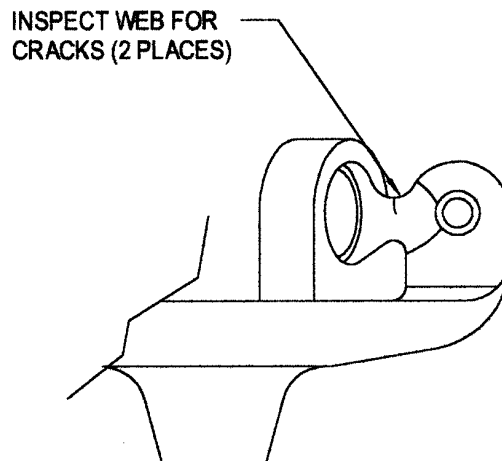

FIGURE 2
b. Using a suitable light source and a 10X magnifying glass, visually inspect the web area between the universal shaft and rod end bearing mounting lugs for cracks (See Figure 2).